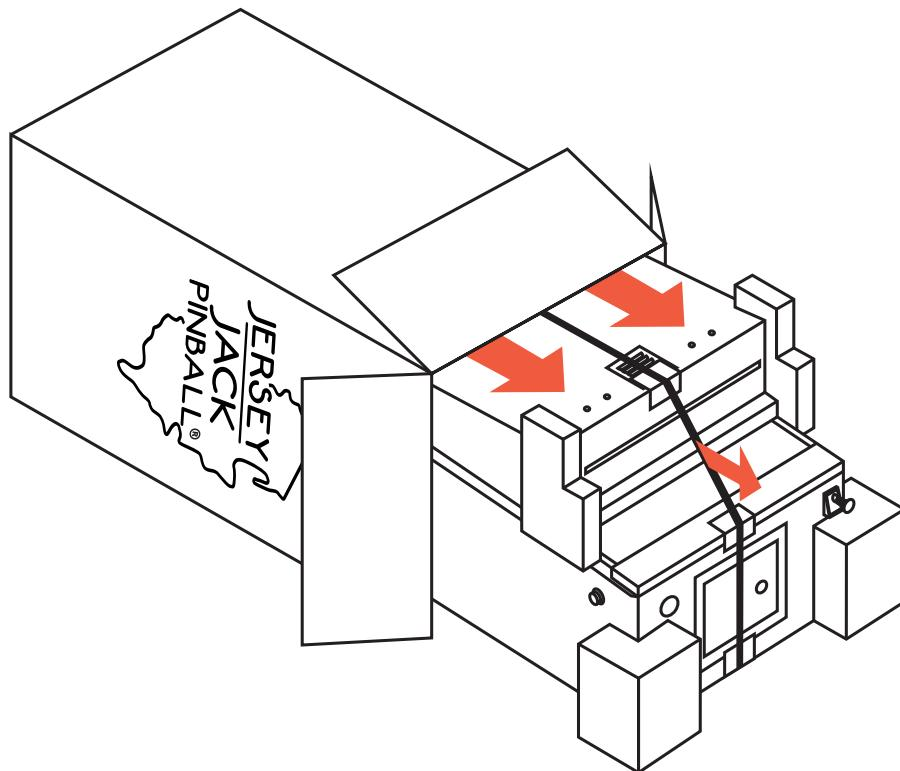

Figure A3a. Sliding the game out of the carton.
- 2) With the help of at least one other person, carefully tip the carton over and lay it on its "TRUCK THIS SIDE ONLY" side (see figure A3a). Using the nylon strap as a handle, slide the game and packing materials out of the carton.